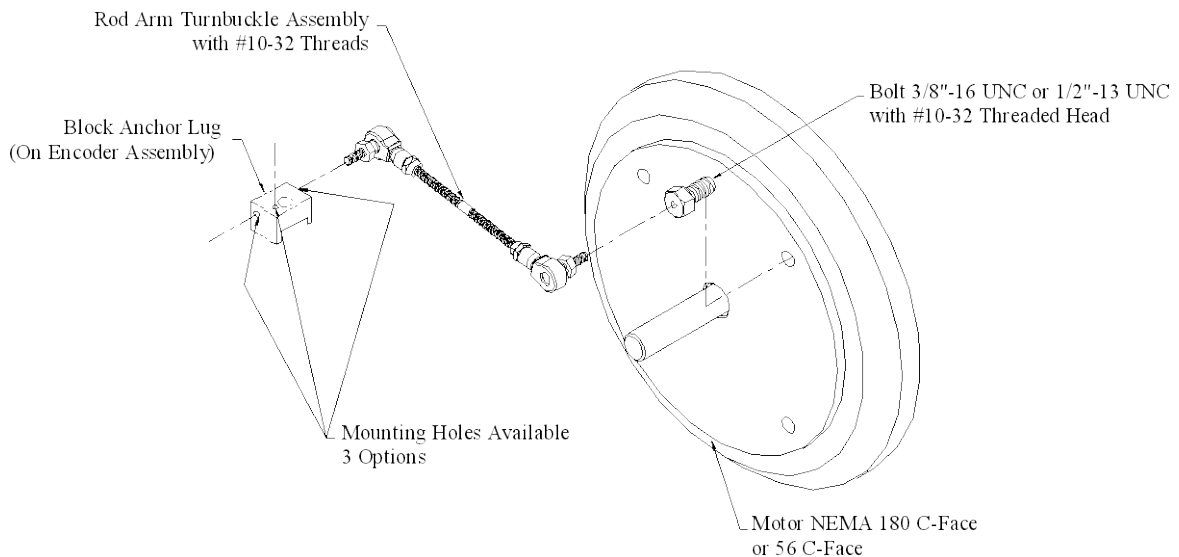

Figure 2: HS56 Anti Rotation Turnbuckle (Motor C-Face Mounting)
Figure 2: HS56 Anti Rotation Turnbuckle (Motor C-Face Mounting).....	7
1. When the HS56 is to be mounted onto a motor with opposite end NEMA C-Face, insert the appropriate bolt (i.e. 3/8"-16 UNC or 1/2"-13 UNC) (provided in hardware kit) into threaded hole on motor C-Face and tighten (see Figure 2). After positioning the encoder to the best angular orientation, adjust rod arm length (see Figure 2) and cut if necessary for proper fit. Align rod end turnbuckle assembly with bolt and tighten to 49 in-lbs. The HS56 anti-rotation arm assembly is designed to accommodate 4.5" and 8.5" C-Face mounting holes.